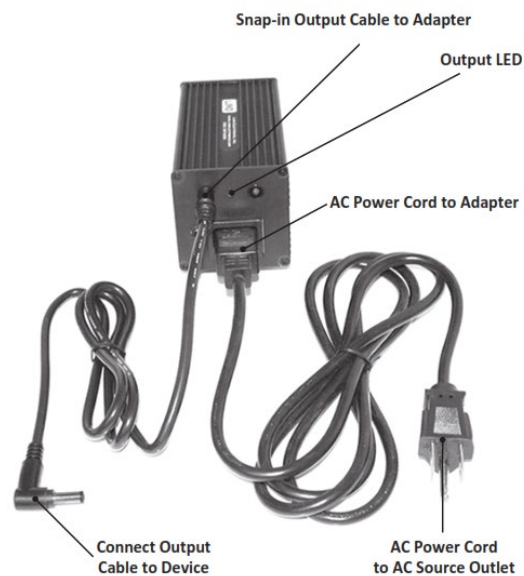

Figure 40. Power Supply with AC Input.
4. Plug the AC power cord into the power adapter (see Figure 40).
6. Confirm that the green “Output Present” LED is on, and that power is now being supplied to the device (see Figure 40).